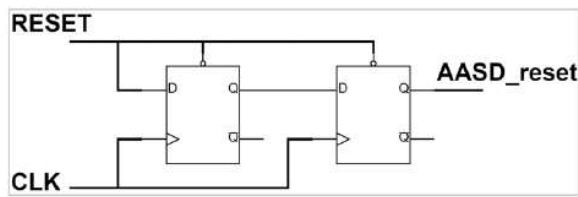
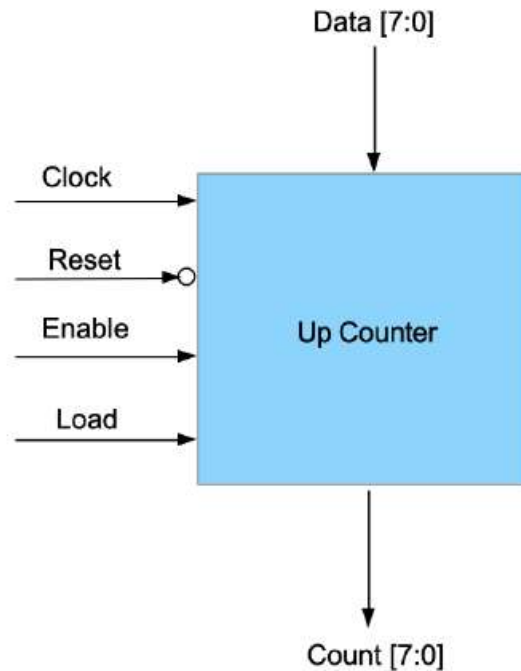

Fig. 1 AASD reset Model
Fig. 2 Up Counter Model
In this lab we will be designing an 8-bit up counter with an asynchronous assert synchronous deassert (AASD) reset. The picture in **Fig. 2** shows us the inputs and outputs of the up counter circuit. The picture in **Fig. 1** shows us how to design the AASD reset. We are also to use behavioral modeling to design all modules in this lab.
2. Looking at **Fig. 1** and **Fig. 2** we need to create one module per each figure and then one more to combine them.
3. The model up counter in **Fig. 2** was created in the file counter.v in **Fig. 4**.
4. The model AASD reset in **Fig. 1** was created in the file AASD_reset.v in **Fig. 5**.